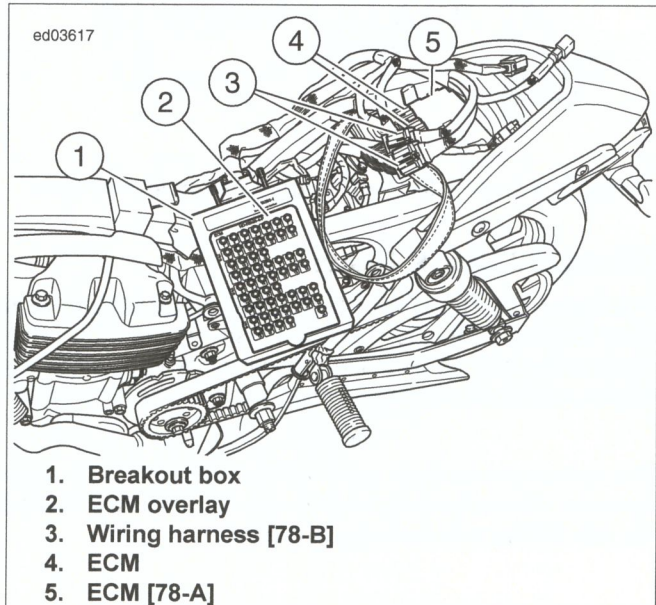

Figure 1-7. ECM Breakout Box Connection
3. See Figure 1-7. Connect BREAKOUT BOX (Part No. HD-50390-1) and ECM CABLE (Part No. HD-50390-4) to connectors.